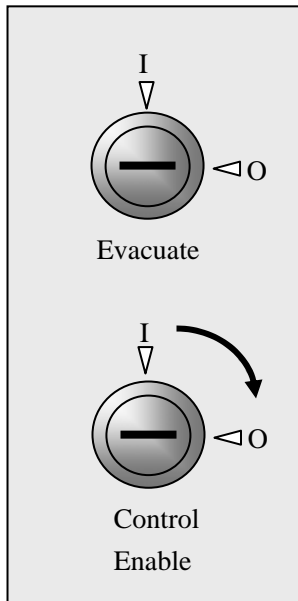

Fig. 3.6.1a
- As in Fig.3.6.1a, when "Control Enable" lock points to "O", the panel is at level 1, and the panel can be silenced.